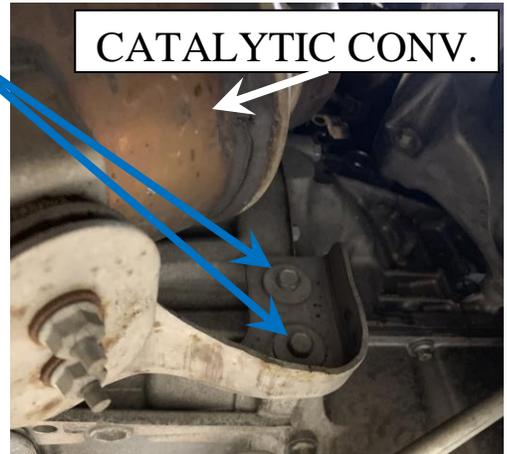

Fig. 13
2. From underneath the vehicle, locate the catalytic converter's support bracket. Remove both bolts. See Fig. 13 (use 13mm socket)